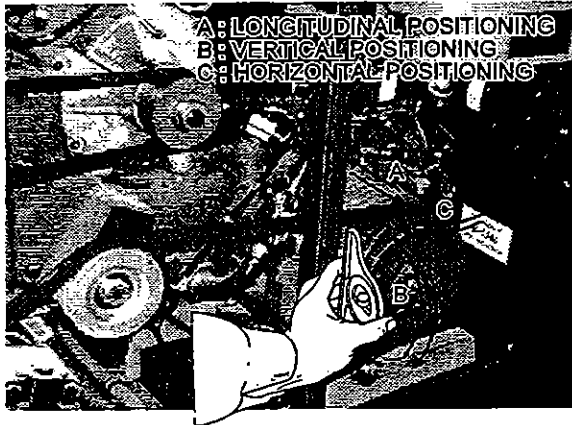

Figure 20: Compressor Alignment
1. Rest an extremity of a straight edge of approximately 46 inches (117 cm) against the upper part of the outer face of crankshaft pulley, positioning the other end close to the compressor clutch pulley (Fig. 20 and 21).
Rest a short "angle and level indicator" on the outer side face of the crankshaft pulley, adjust the level indicator inclination at 0° and check if the compressor pulley is at same angle (Fig. 20 & 21). If it is not the same, shim under the appropriate pillow block in order to obtain a correct angle.